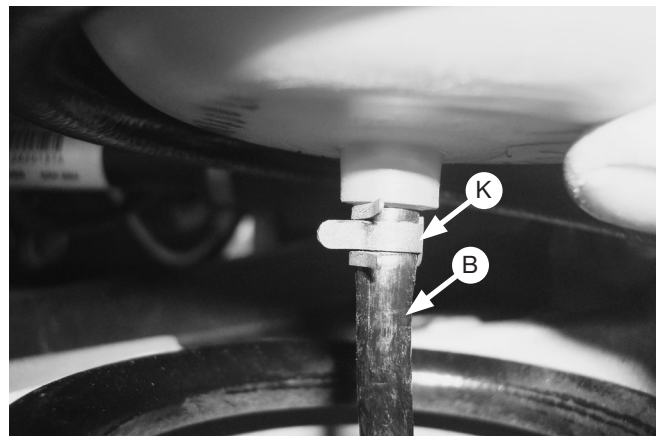

Fig. 6
4. Using a pair of pliers, slide an air line clamp (K) over one end of the air line (B) and insert the air line through the previously drilled hole in the lower rubber spring seat. Push the air line completely over the barbed stem of the air spring and slide the clamp over the barbed stem area (Fig. 6).